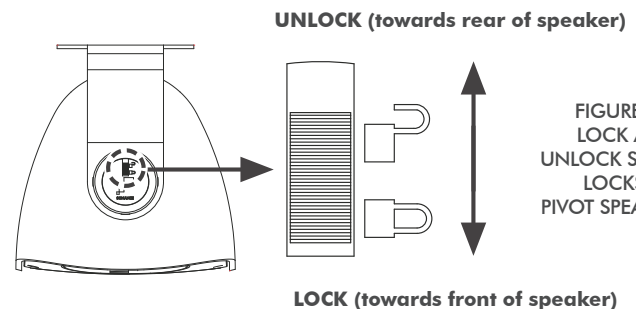

FIGURE 12:
- Unlock the slide locks on the speaker pivots by moving them towards the rear of the speaker (see figure 12).